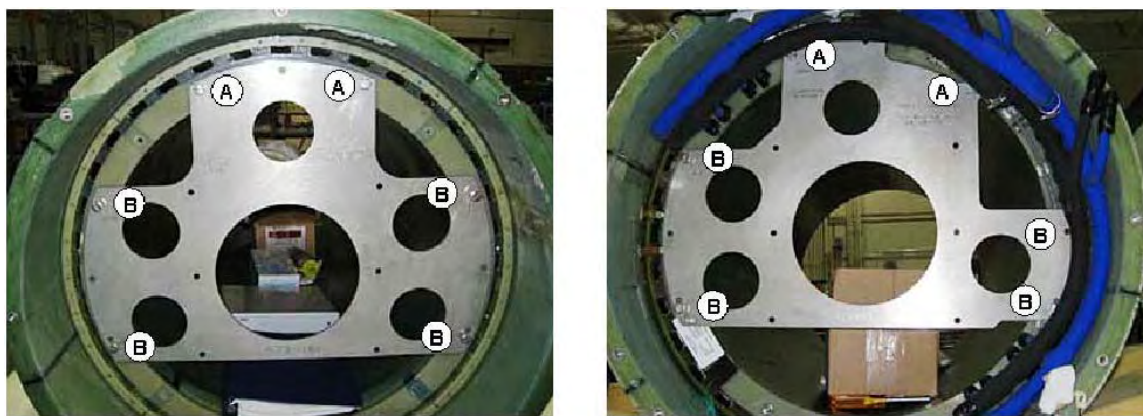

FIGURE 40 – Mounting plates with Roller Assemblies
- a) Install the Patient End Mounting Plate 5161985 (with a Tube Guide Roller Assembly) on the gradient coil's patient end and the Service End Mounting Plate 5161983 (also with a Tube Guide Roller Assembly) on the gradient coil's service end. Use the M10 x25 SS Hex Cap screws (46-318508P20) included in the Gradient Coil Insertion and Lift Kit. (**FIG 40**)